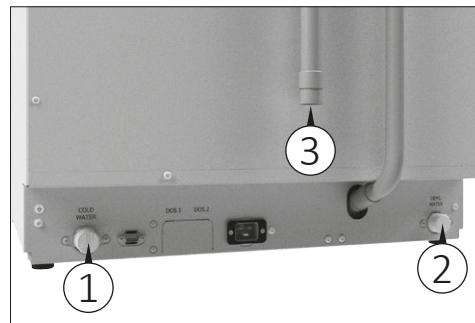

Fig. 8
- Make sure to connect the water flexible hoses in the positions shown in Fig. 8.
- Connect the water flexible hoses as shown in Fig. 8.
Water connections (Fig. 8)
- 1) Connect the machine to water connections (Fig. 8).